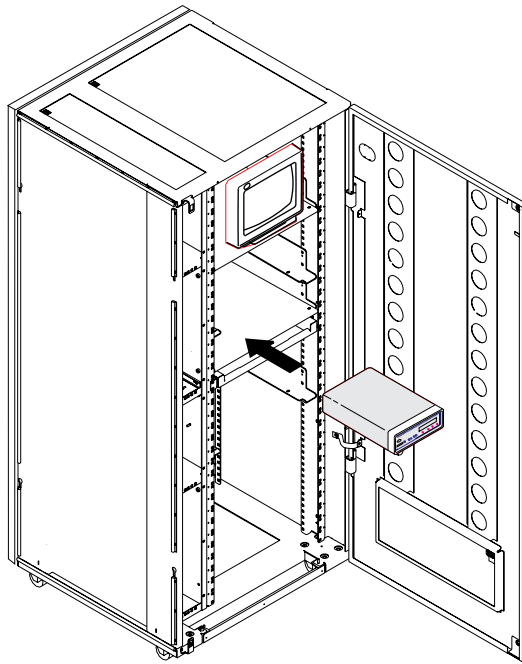

Figure 1-111. Installing the 7857 in the Controller Expansion
3. ____ Slide the 7857 in the controller expansion as shown in Figure 1-111.